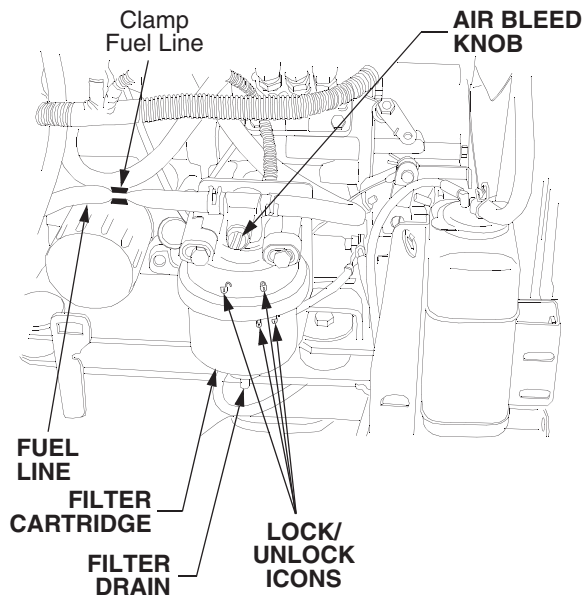

Figure 60
- Slowly turn the air bleed knob counterclockwise until fuel begins to seep out around the bleed knob. Turn the air bleed knob clockwise to close. Refer to Figure 60.
- Clamp the fuel line just to the rear of the fuel filter. See Figure 60.
- Turn the filter approximately 1/4 turn counterclockwise (as viewed from bottom) to align the unlock icons. Refer to Figure 60.